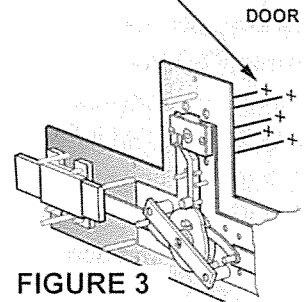

FIGURE 3
4. Mark four Cylinder Shield holes & Cylinder centre using the Lock Backing Plate as a template. (Fig. 3)